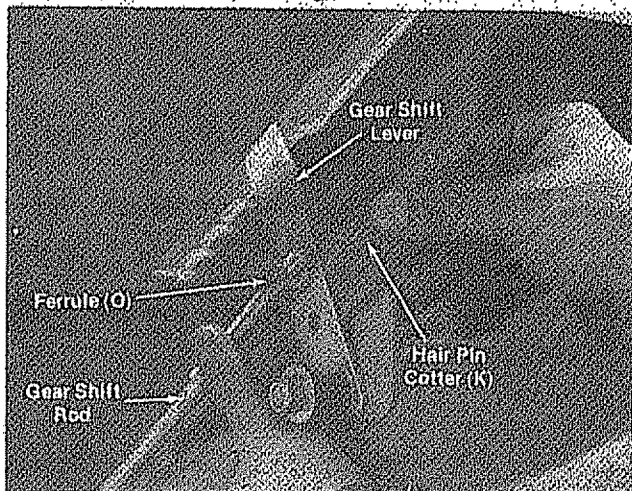

FIGURE 10.
I. Thread ferrule (O) on other end of gear shift rod. See figure 10.
- J. Secure ferrule in gear shift lever (as shown in figure 10) with hair pin cotter (K).